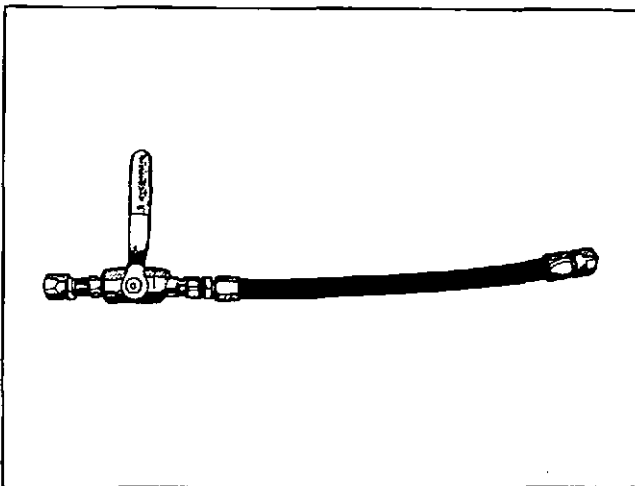

Fig. 10-71, (F5406). Jumper tube and valve.
3. Jumper tube and valve, Tool No. 3375600. This tool is required to calibrate the fuel pump without the fuel manifold control attached to the pump, Fig. 10-71.